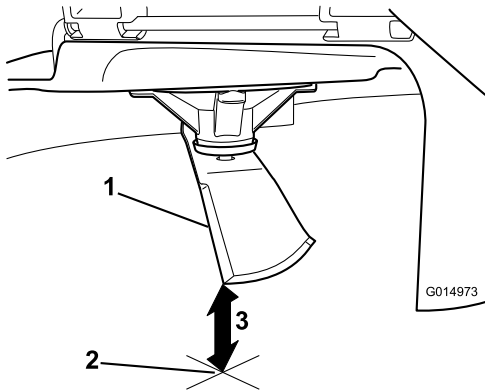

Figure 47
5. Measure from the tip of the blade to the flat surface (Figure 47).